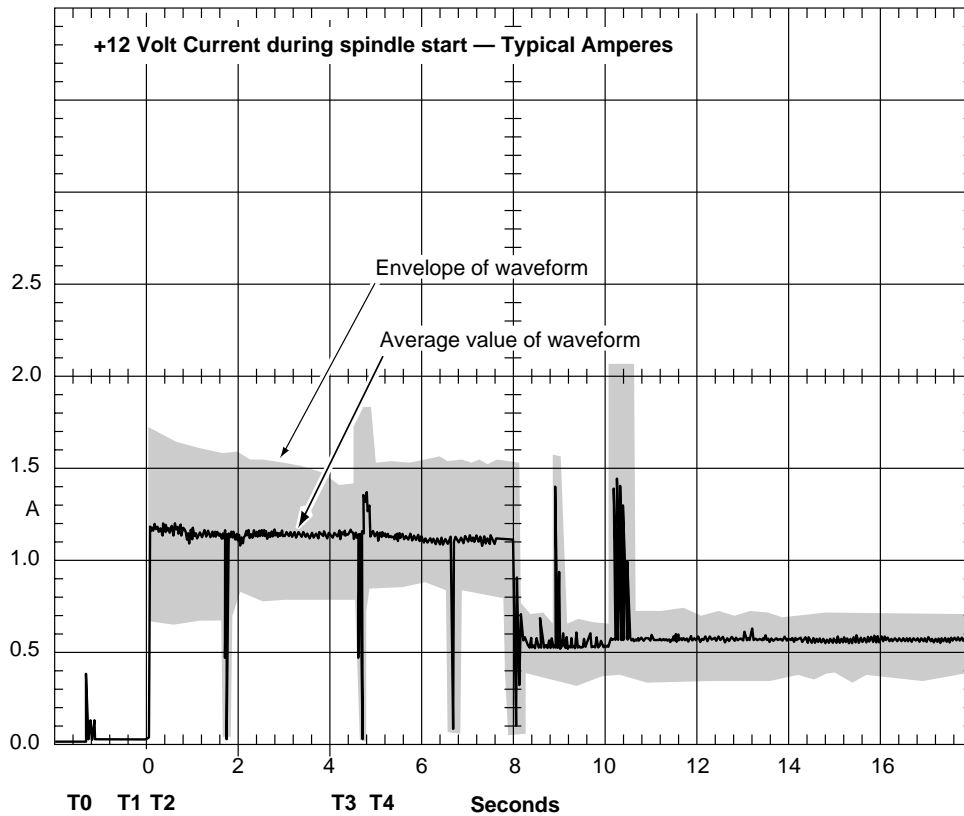

Figure 3. Typical ST1181677FC drive +12V current profile
- [3] See +12V current profile in Figure 3.
Figure 3 identifies the drive +12V current profile. The current during the various times is as shown: